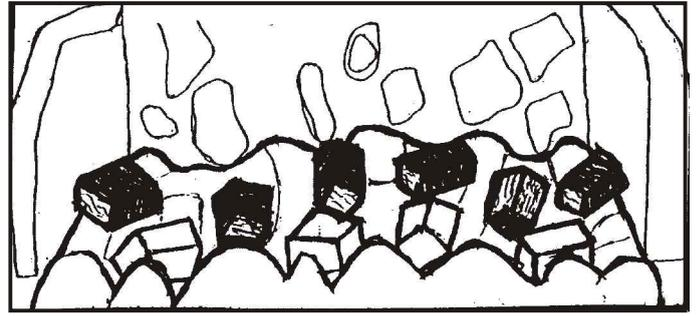

Fig. 6C
4. In a similar manner place the remaining 6 coals above and behind the raised portions of the rear of the front coal bed as shown in Fig. 6C. Ensure that there is adequate space between the rear coals and the rear coal bed for flames to pass through.